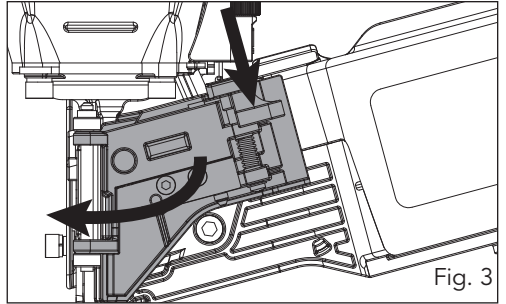

Fig. 3
1. Grip the handle (8) firmly with one hand and with the other hand press down on the feeder cover latch (4) and open the feeder cover (5) (fig. 3).